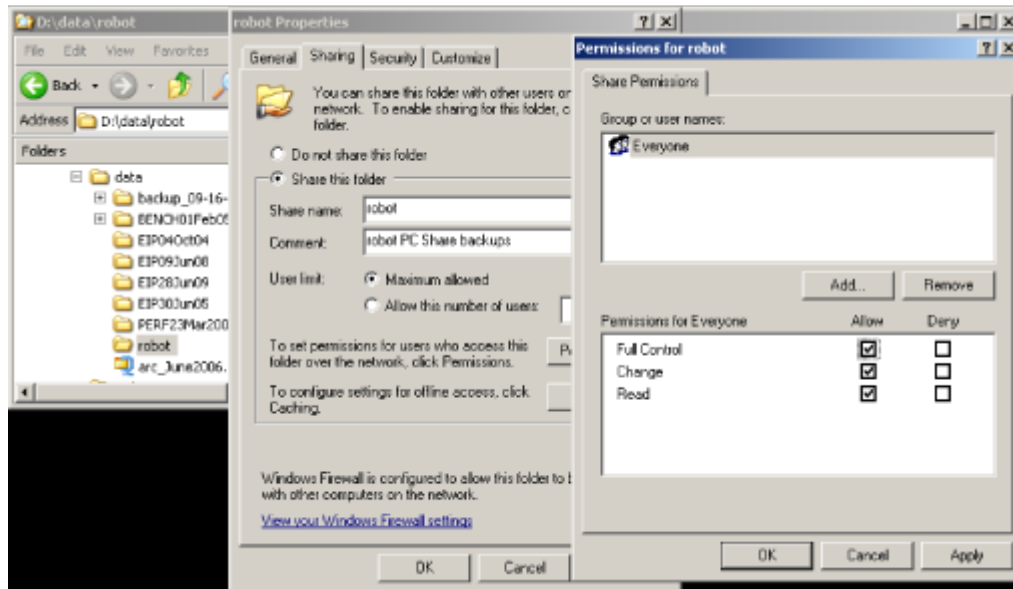

Fig. 14.5(a) Sharing a Folder in Windows® XP
1. From the Control Panel, go to the Network and Sharing Center. See Figure 14.5(b) .